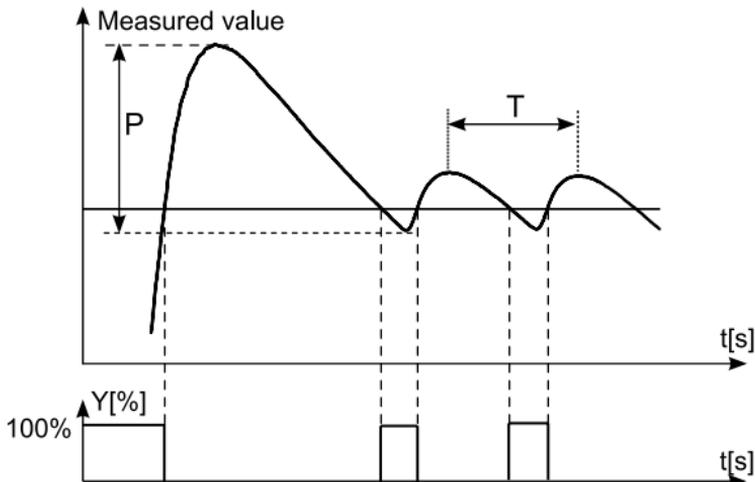

Fig.11. Selection by the oscillation method.
- on-off control acc. to fig.11,